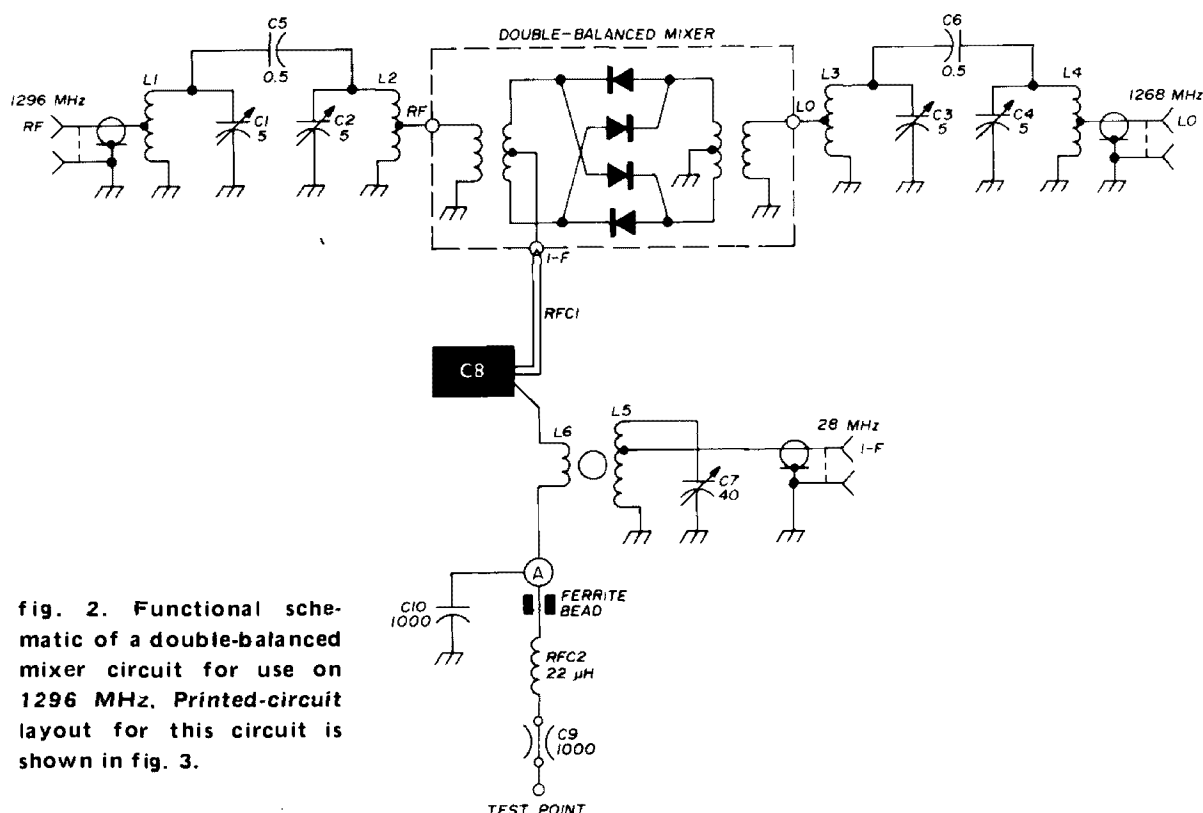

fig. 2. Functional schematic of a double-balanced mixer circuit for use on 1296 MHz. Printed-circuit layout for this circuit is shown in fig. 3.
*Other intermediate frequencies may be used by suitable modification of components L5, L6 and C7 in fig. 2.
with connectors, this filtering is readily incorporated on the circuit board on which the mixer is mounted. In fig. 2, components L1 through L6 and C1 through C7 serve this purpose.
connectors for interfacing to the three ports. Upon attempting this simplistic approach in a 1296-MHz transceiver converter, however, I found myself with more birdies than the Audubon Society, and enough image to run for office. Only upon incorporating the filtering provisions of fig. 2 did the melange of signals emanating from the mixer become manageable.
The circuit of fig. 2 incorporates a current monitoring provision. Point A is normally connected directly to ground. If the ground is omitted, rectification by the diode quad results in a dc component; relative current may be monitored by measuring the voltage drop with a sensitive vtvm connected between point A and ground. Additionally, proper operation of the mixer requires point A to be at rf ground. Therefore, effective bypassing of *all* rf components must be provided. Bear in mind that the local-oscillator to i-f isolation is only on
fig. 3. Double-balanced mixer circuit for 1296 MHz which uses microstripline construction. Component details are listed under fig. 2. Full-size printed-circuit board is shown in fig. 4.